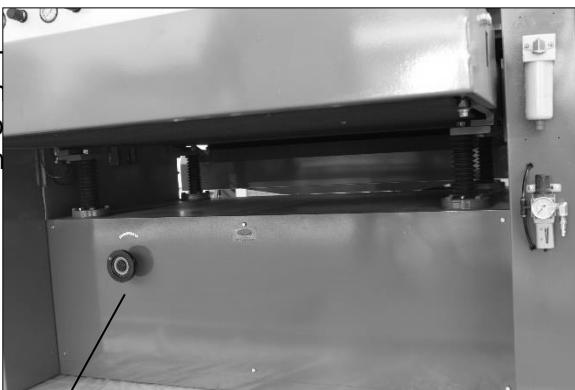

Figure 13
4. Raise the table manually using the handwheel (Figure 13) until the panel or set up block contacts the pressure roller.